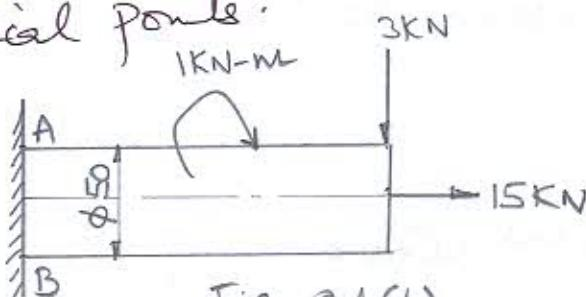

Fig. Q1(b)
b) A circular rod of diameter 50mm is subjected to loads as shown in fig. Q1(b). Determine the nature and magnitude of stresses at the